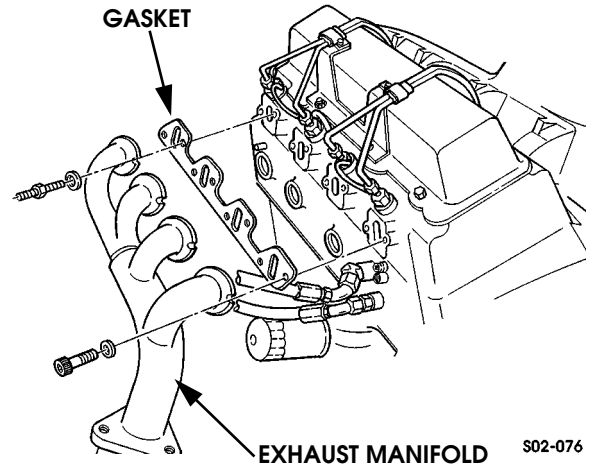

Figure 2-86: Left Side Exhaust Manifold and Gasket Removal
1. Remove stud and washer from left side (Figure 2-86).
2. Remove left manifold screws and manifold, and gasket. Discard gasket (Figure 2-86).